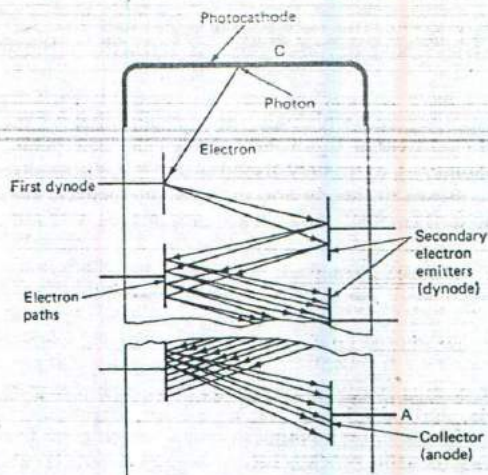

Fig. 14-91 Basic PM tube principle.
The phototube has very low gain at low intensities of light. The photomultiplier (PM) tube overcomes this deficiency. The basic operating principle of the PM tube is illustrated in Fig. 14-91. Light falling on a light-sensitive photocathode causes it to emit free
electrons, which are drawn away from the photocathode by an electrode having a more positive potential. These electrons accelerate and strike the first dynode, where they dislodge additional electrons. The next dynode is more positive, so the electrons are now accelerated to it. This process is repeated, with each stage having a higher positive potential than the previous one. The electrons emitted from the last secondary stage are collected at an anode (A in Fig. 14-91), and the resulting current is passed to the accompanying circuitry.